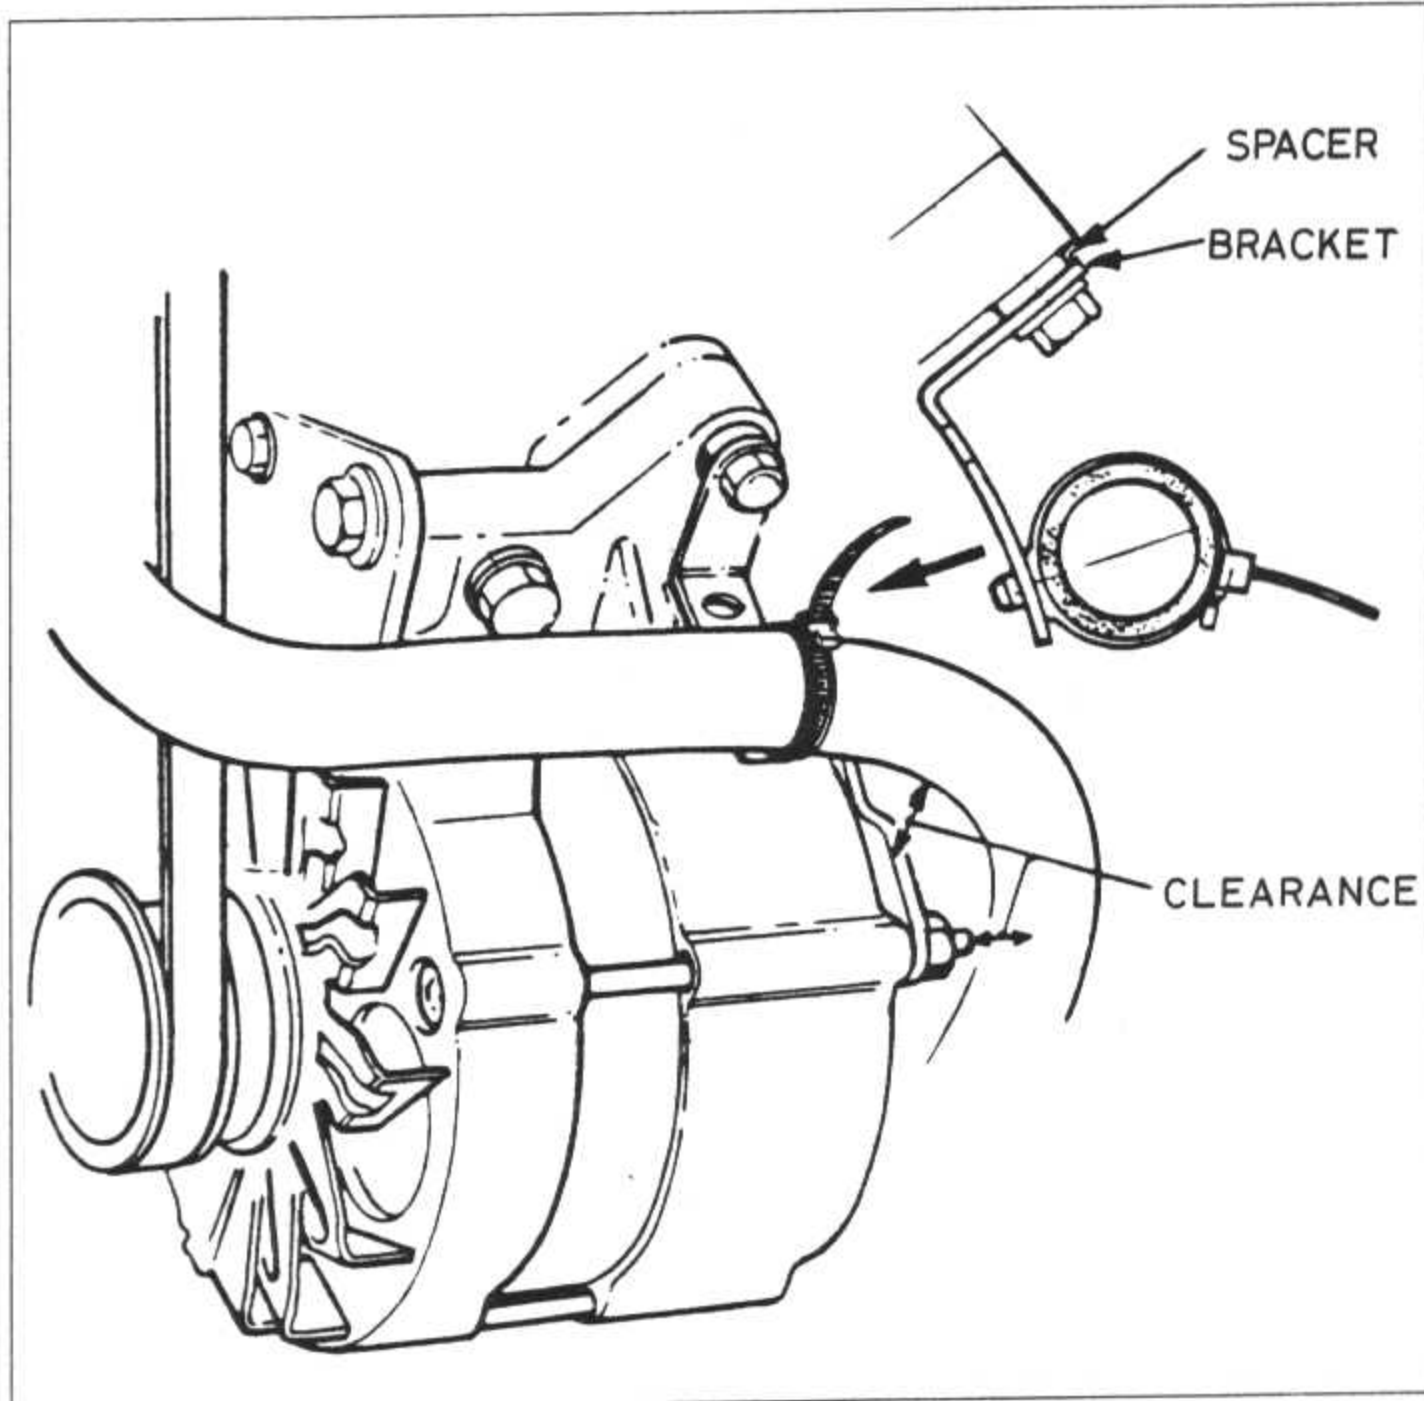

Fig. 1.24 Heater hose arrangement to clear alternator and drivebelt (Sec 51)
- Ensure that the heater hose is located in the strap attached to the bracket on alternator upper retaining bolt. This is necessary to keep the hose clear of the alternator drive pulley (Fig. 1.24).